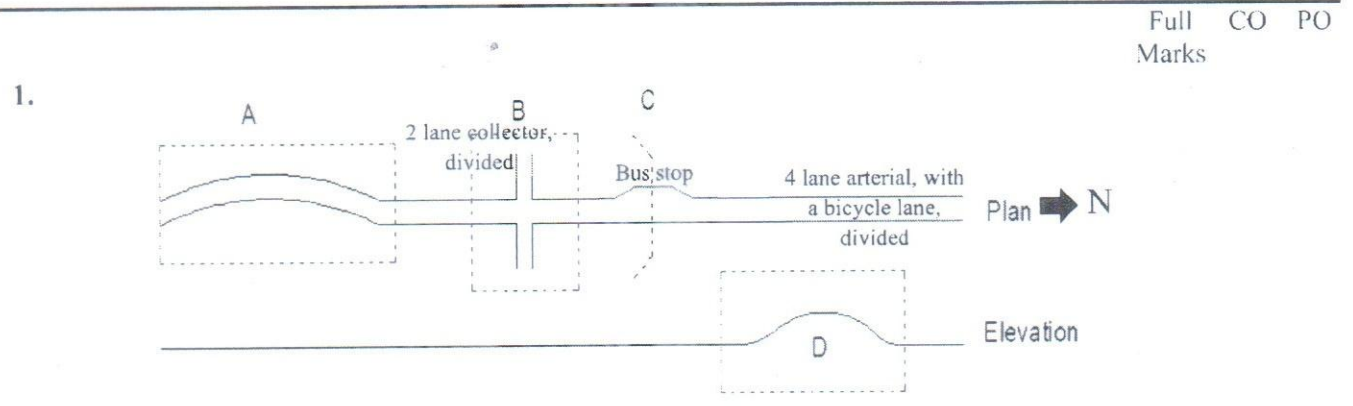

Figure- 1
| <p>(a) The arterial has a design speed of 60 miles per hour, and maximum values for super-elevation and co-efficient of side friction are 6% and 0.12 respectively. The two tangent lines of the curve (Section A from the Figure-1) meet at station 1200+20, and the angle of deflection is 14°. Find the length of the curve, the stations for the point of curvature and point of tangency and all other relevant characteristics of the curve (length of the long chord, the middle ordinate, and the external distance). Considering the width of each lane to be 12 ft, design the super-elevation of the curve. Demonstrate the transitions in super-elevation through a figure.</p> | 20 | CO2 | PO3 |
| <p>(b) Section B of the Figure-1 represents a four-legged intersection with significant volume on the arterial. During the morning peak, S-W right turn movements and during the evening peak E-S right turn movements become significant. All legal movements are allowed. Provide a fully at-grade (channelization and/or signalization) design solution. Also, draw conflict diagrams before and after the solution has been implemented.</p>  | 20 | CO2 | PO3 |
| <p>(c) Draw the cross-section elements with dimensions at Section-C (From the Figure-1) with a separated contra-flow cycle lane, a bus lane, and a traffic lane.</p>  | 5  | CO2 | PO3 |
- (d) A vertical curve (Section D from the Figure-1) of 1,000 ft is designed to connect a grade of +5% to a grade of -4%. The V.P.I is located at station 3,300+51 and has a known elevation of 200 ft. Find the following: 15 CO2 PO3